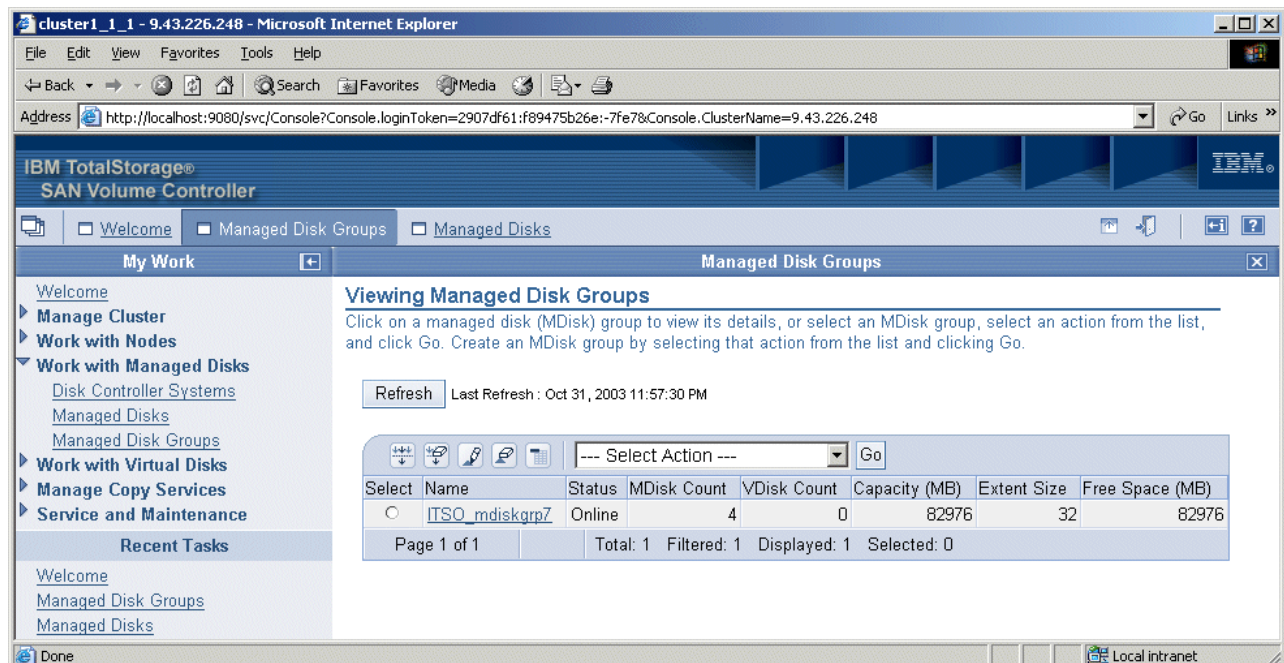

Figure 6-30 MDG added successfully
- You should return to the Viewing Managed Disk Groups panel (Figure 6-30) where your new MDG (in our case ITSO\_mDiskgrp7) is displayed.